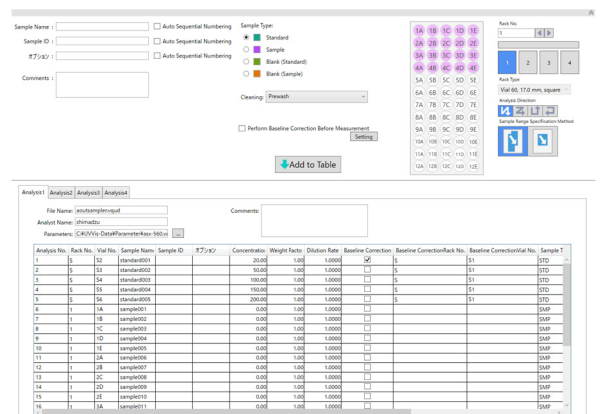

Fig. 5 Setting of Automatic Analysis Screen
First, the measurement conditions are set in the quantitative measurement mode of the LabSolutions UV-Vis software. The measurement wavelength, concentration of the standard sample, suction speed, and other parameters are decided. Next, the measurement conditions of the autosampler are set from the automatic analysis screen. As shown in Fig. 5, the measurement locations and the measurement sequence of the standard sample (S), rinse (R), and quantitation sample (1A, 1B, ...) can be decided visually. It is also possible to determine the detailed conditions for each of these measurements, including whether to use the baseline correction and prewash functions or not. Existing measurement conditions can also be accessed, saving time and trouble in condition setting.